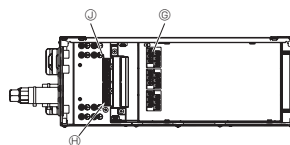

Fig. 4-2
#### ■ PAC-MK51BC (Fig.4-2)
- (1) Install the suspension bolts (procure locally) at the specified pitch (Fig. 4-2, 4-3).